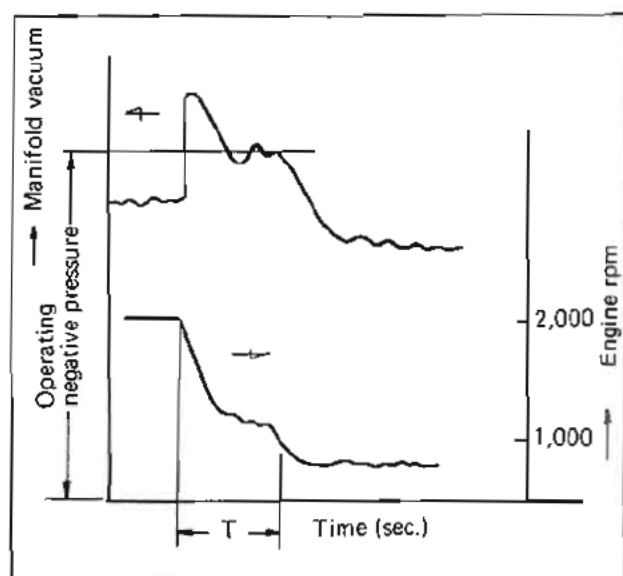

Fig. EC-23
3. It is normal that time required in lowering speed from 2,000 rpm to 1,000 rpm ("T" in Figure EC-23) is approximately three seconds.
4. Thereafter, both speed and manifold vacuum reduce, or when one to two seconds are elapsed, both of them stop lowering. Figure EC-23 shows these phenomena.